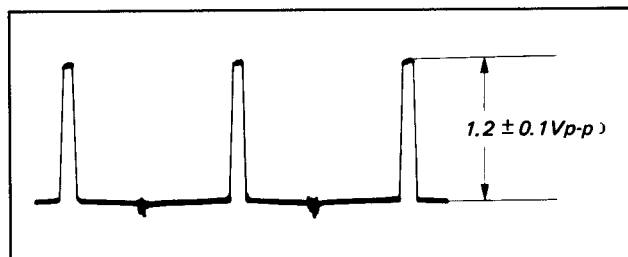

Fig. 2-6
- 2) Turn RV704 counterclockwise on the printed face and adjust the peak-to-peak value of the waveform shown in Fig. 2-6 to $1.2 \pm 0.1\text{Vp-p}$.